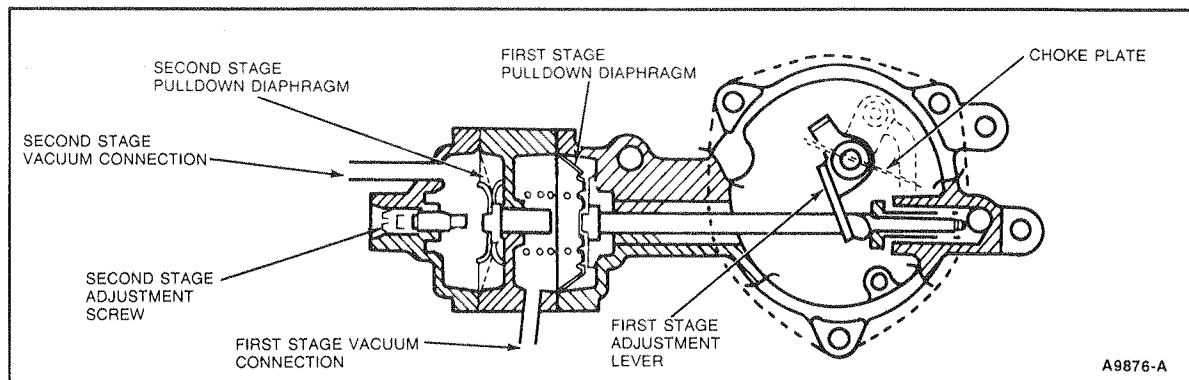

Figure 1 Choke Plate Pulldown — Two — Staged Type
- d. If required, adjust by bending the lever as shown in Figure 1. (NOTE: Choke cap must be removed per procedure in Shop Manual, Group 24.)
- c. If required, adjust by turning the Second Stage adjustment screw as shown in Figure 1.